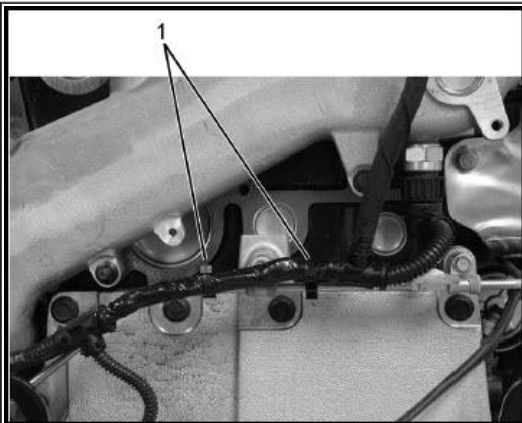

Figure 8: Engine Harness Attached to AFI Hardline
1. C clip retainer (2)
22. Attach C clip retainers to engine wiring harness (*Figure 8, Item 1*).